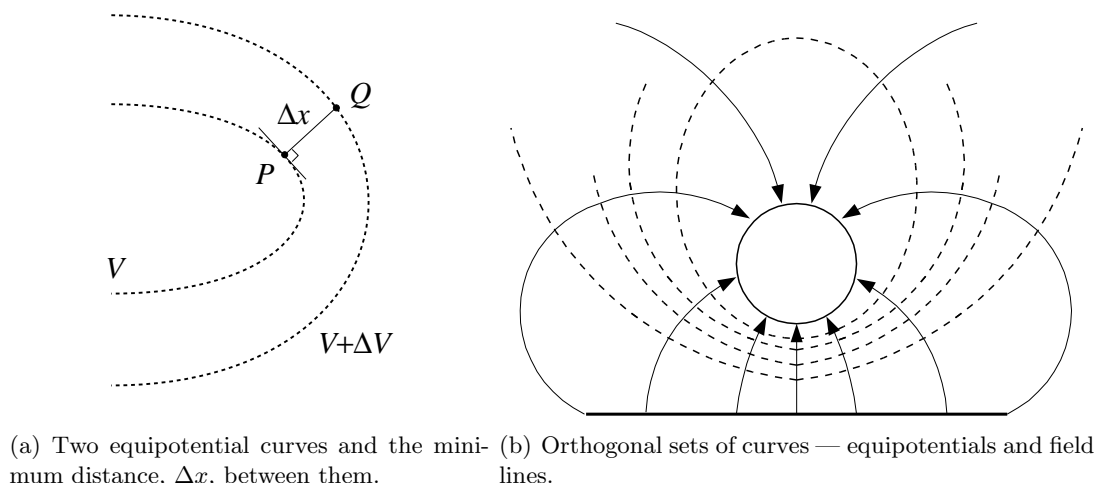

Figure 2.3: Equipotential curves
analogous to the slope of the landscape, with the direction of the electric field corresponding to the direction of steepest slope at the point in question. Thus, as shown in Figure 2.3(a), with one equipotential at potential  $V$  and a second, nearby one, at potential  $V + \Delta V$ , the magnitude of the electric field at point  $P$  is approximated by
where  $\Delta x$  is the minimum distance between the two equipotentials. Using the minimum value of  $\Delta x$  guarantees that the ‘derivative’  $\left| -\frac{\Delta V}{\Delta x} \right|$  is largest at the point  $P$ . (The derivative in any direction is determined by the *gradient* of  $V$ :  $dV = \vec{\nabla} V \cdot d\vec{r}$ ; the electric field is closely related to the gradient:  $\vec{E} = -\vec{\nabla} V$ .) The direction of the electric field is in the direction of  $\Delta x$ , either from  $P$  to  $Q$ , or in the opposite direction, from  $Q$  to  $P$ , depending upon whether  $\Delta V$  is negative or positive. The minus sign in Eq. (2.6) simply means that the electric field is in the direction of decreasing potential. One more property of the gradient is important to note: the gradient is perpendicular to the tangent to the equipotential at point  $P$ , as shown in Fig. 2.3(a). Thus, the electric field is perpendicular to the equipotential curves.
We can now envision two entire families of curves, as illustrated in Figure 2.3(b): the first, a set of equipotentials, and the second, a set of curves whose tangent at a point indicates the direction of the electric field at that point. The members of the latter family, the electric field lines, are also called “lines of force” because the electric field is in the direction in which a positive charge  $q$  would move if it were placed at that point. As mentioned earlier, the equipotentials form closed curves (no beginning, no end), while the field lines start on positive charge and end on negative charge. The two families of curves are orthogonal (perpendicular), because at any given point, say  $P$ , the tangent to the equipotential through  $P$  is perpendicular to the field line through  $P$ . The direction of a field line is in the direction of the electric field.
4. Sketch the field lines orthogonal to the equipotentials for this configuration of electrodes, and indicate their direction by small arrowheads. (See Figure 2.3(b).)